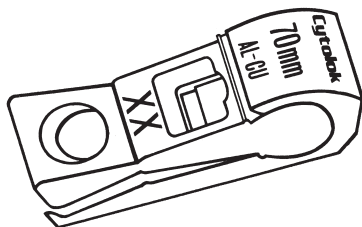

Fig. 1
- 3** Assemble the lug, so that the XX marking is facing outwards. (Fig.1)